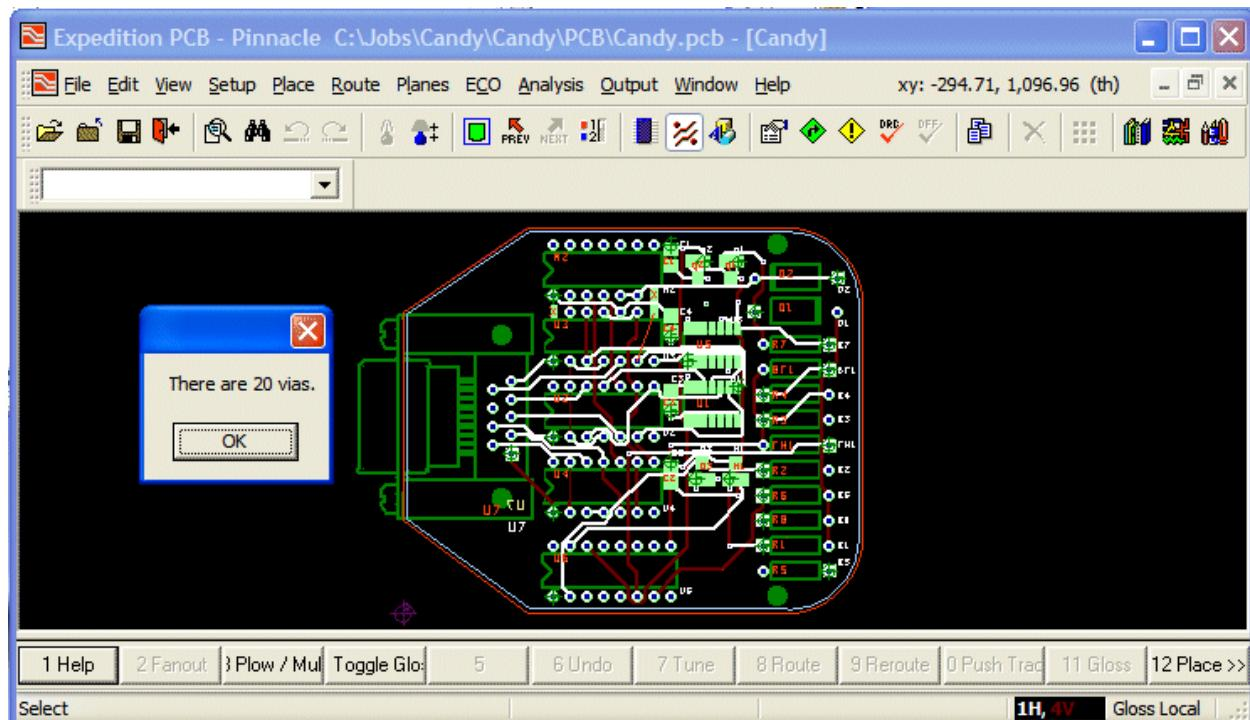

Figure 5-2. Using the <Ctrl>+N accelerator to run the ViaCount.vbs script.
- 6) Now we want to test the accelerator key to check that it does indeed run our *ViaCount.vbs* script. If you had not already opened a layout design document in point (2), then this would be the time to do so.
- 7) Press the <Ctrl>+N key combination and observe that your accelerator key does indeed work as illustrated in Figure 5-2.